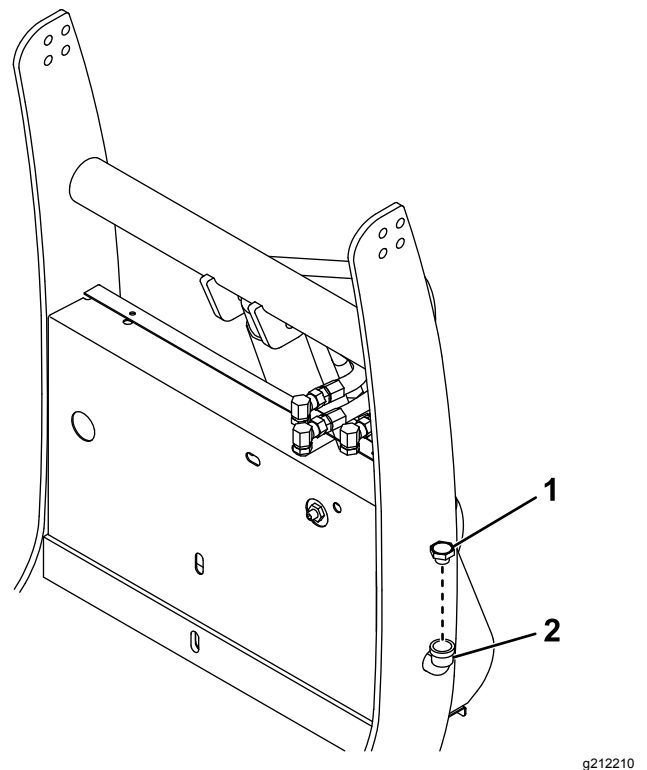

Figure 37
2. Clean the area around the fill cap (Figure 37).
3. Remove the fill cap from the hydraulic reservoir (Figure 37).